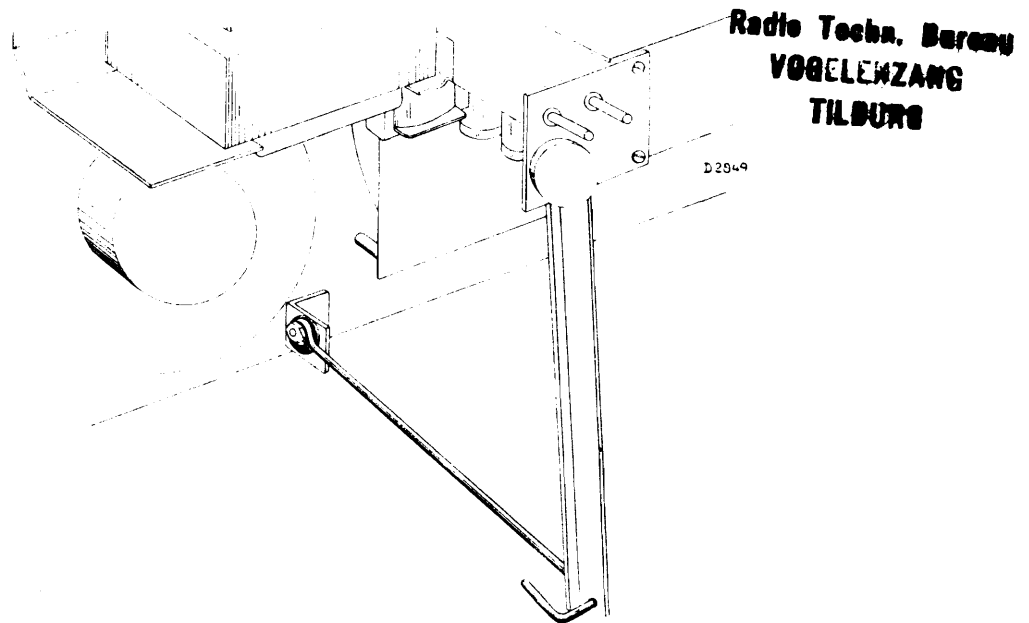

Fig. 8.
5. Lift the complete assembly of speaker, baffle and chassis from the cabinet. By loosening the suspension bracket and fitting a piece of iron wire, bent as shown in Fig. 8, between the bracket and the bolt, the whole assembly can be placed upside down on the bench and the wiring is then easily accessible.